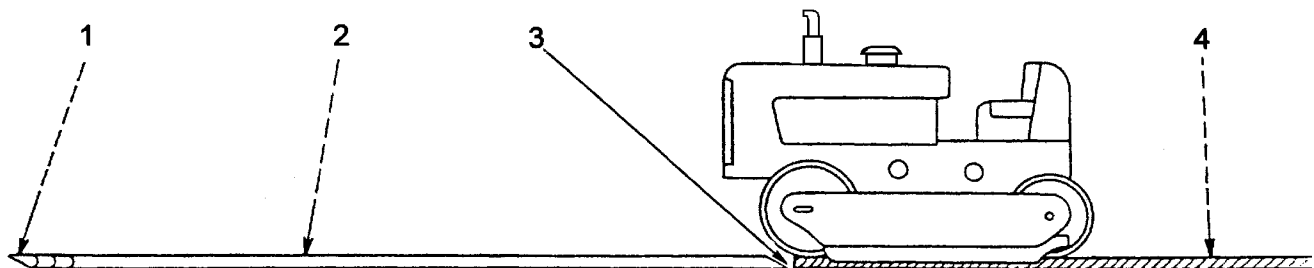

Fig. 15.4. Removing the Track Chain
4. Place a plank flush against the rear of the track when the track is flat on the ground as shown in Fig. 15.4. The plank should be approximately the same thickness as the track and long enough so that the entire dozer can rest on the plank. If a new track is to be installed, remove the old chain as described above, and place the new chain on the ground ahead of the dozer, with the open link end flush against the front of the old chain.